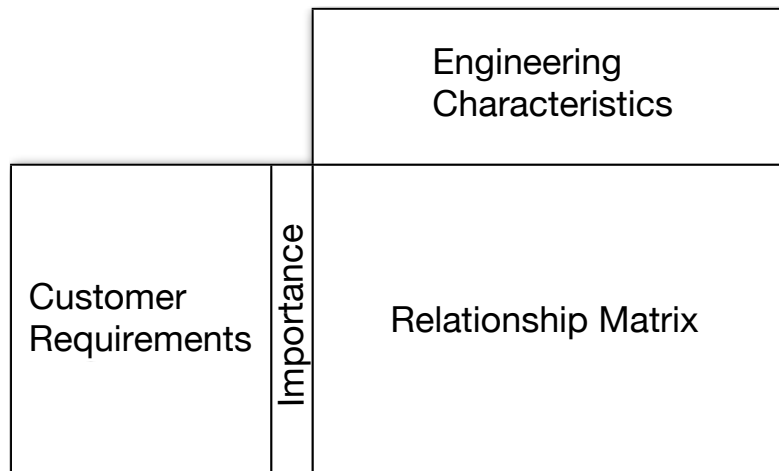

Figure 6.1: The House of Quality
- b. Label each part of the Problem Understanding Form (the middle of the House of Quality) in Figure 6.1.